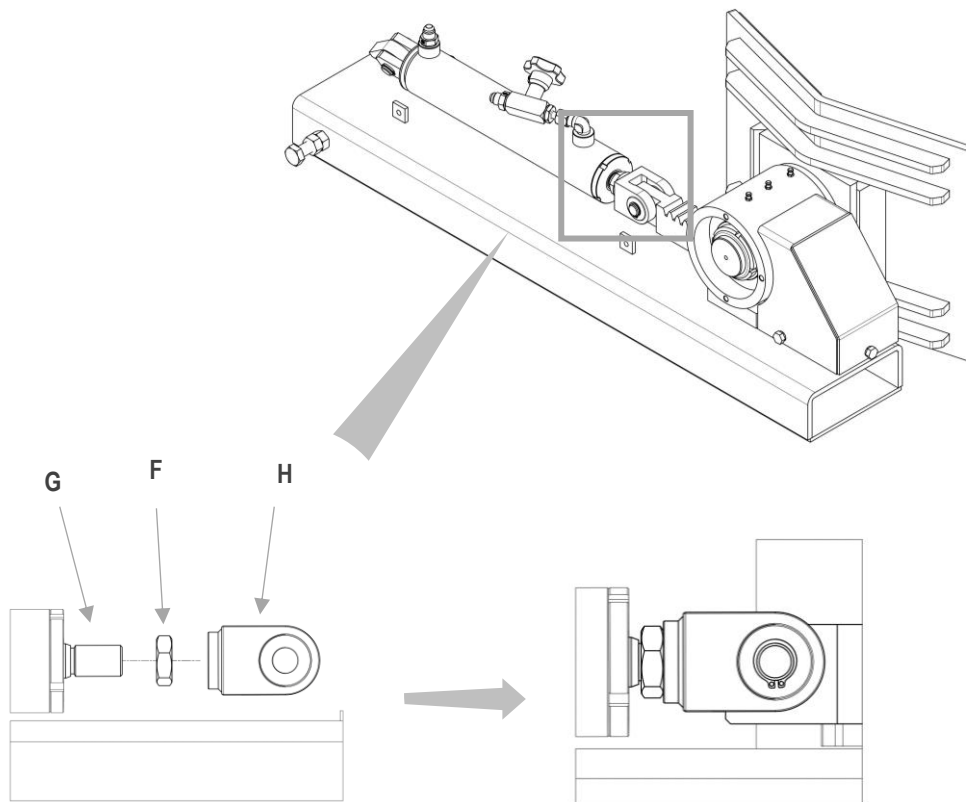

Figure 22
6. Carry out the timing by positioning the stop nut **F** against the cylinder piston rod **G** and fit the rack securing fork assembly **H**, screwing it in until it stops at the stop nut **F** (see Figure 22)